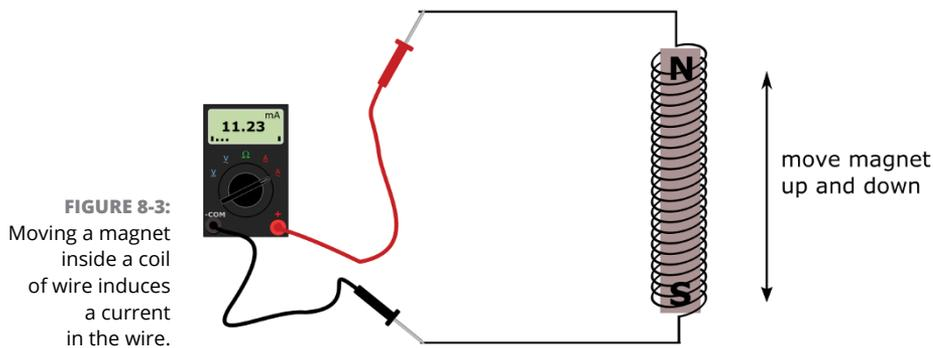

FIGURE 8-3: Moving a magnet inside a coil of wire induces a current in the wire.
Suppose you place a strong permanent magnet in the center of a coil of wire connected as in Figure 8-3. (Note that the multimeter and the wire form a complete path.) If you move the magnet up, current is induced in the wire and flows in one direction. If you move the magnet down, current is also induced, but it flows in the other direction. By moving the magnet up and down repeatedly, you can produce an alternating current (AC) in the wire. Alternatively, you can move the *wire* up and down around the magnet, and the same thing will happen. As long as there is relative motion between the wire and the magnet, current will be induced in the wire.